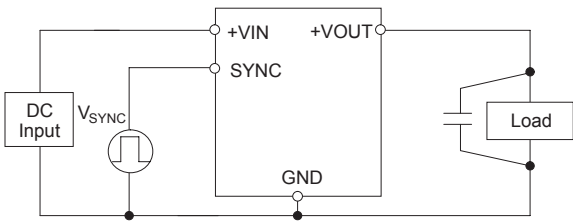
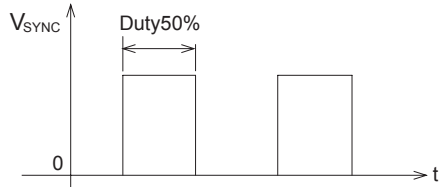

Fig 3.10 Example of frequency synchronization
Fig 3.11 Recommended wave form of SYNC
■ Fig.3.10 is example of frequency synchronization. And recommended wave form of SYNC pin is shown in Fig.3.11